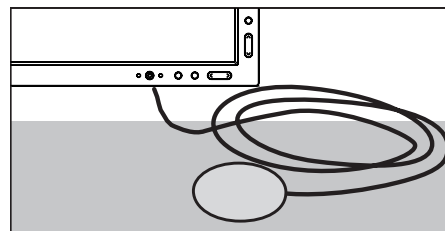

Figure S.2
3. Place the USB sensor face down on a non-reflective, opaque surface (i.e. desk or a mouse pad) to measure the black level (**Figure S.2**). Press "SELECT".